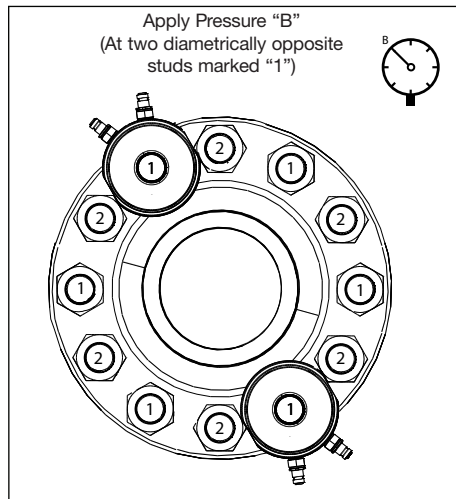

FIGURE 18, RECHECKING FIRST PASS TENSION (50% TENSIONER COVERAGE)
7. Release the system pressure and repeat **Step 6** twice further. See Figure 18